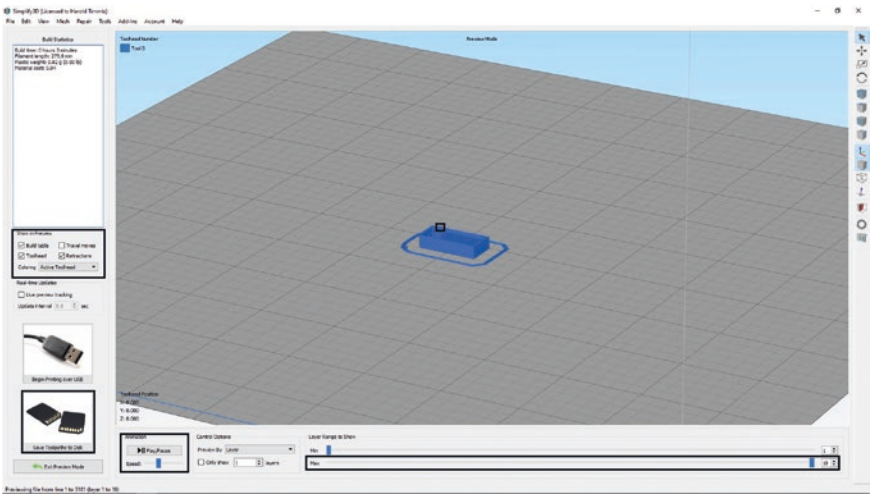

Figure 4-53. *Print Preview functions*
10. Next will be sent to the Print Preview mode. The Print Preview mode is very important as you can use the Layer Range to Show ► Max slider to show you what your print will look like just by sliding it back and forth. You can also use the “Play/Pause” button to run through the print at an accelerated speed. You may also notice small dots on your print; these are retraction points. On the left side of the window, you will notice several checkboxes; these control what you are seeing on the build plate, for example, the retraction points. See Figure 4-53.